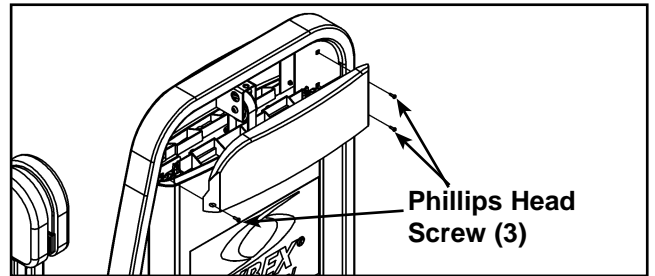

Figure 11
- E. Install the three Phillips head screws securing the top (back) shroud. See Figure 11.